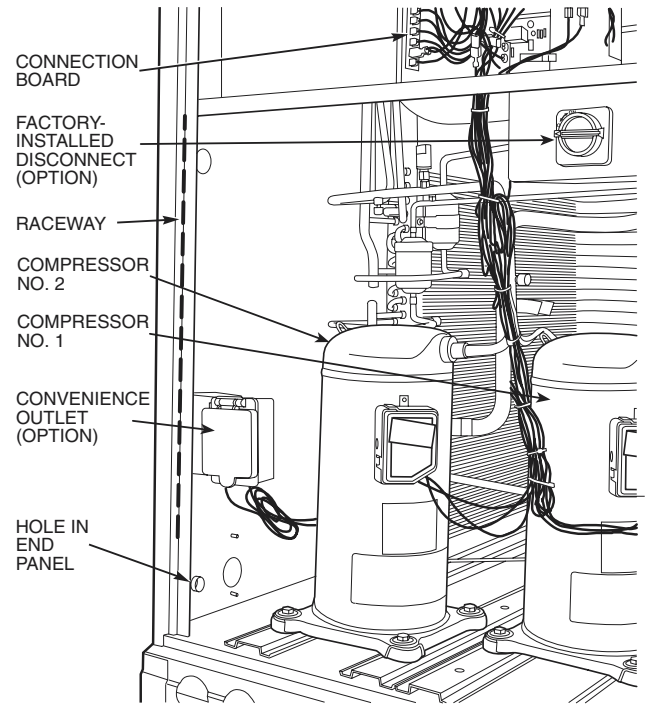

Fig. 10 — Field Control Wiring Raceway
2. Feed wires through the raceway built into the corner post to the 24-v barrier located on the left side of the control box. See Fig. 10. The raceway provides the UL-required clearance between high-voltage and low-voltage wiring.
- Feed the wires through the raceway built into the corner post to the 24-v barrier located on the left side of the control box. See Fig. 10. The raceway provides the UL-required clearance between high and low voltage wiring.